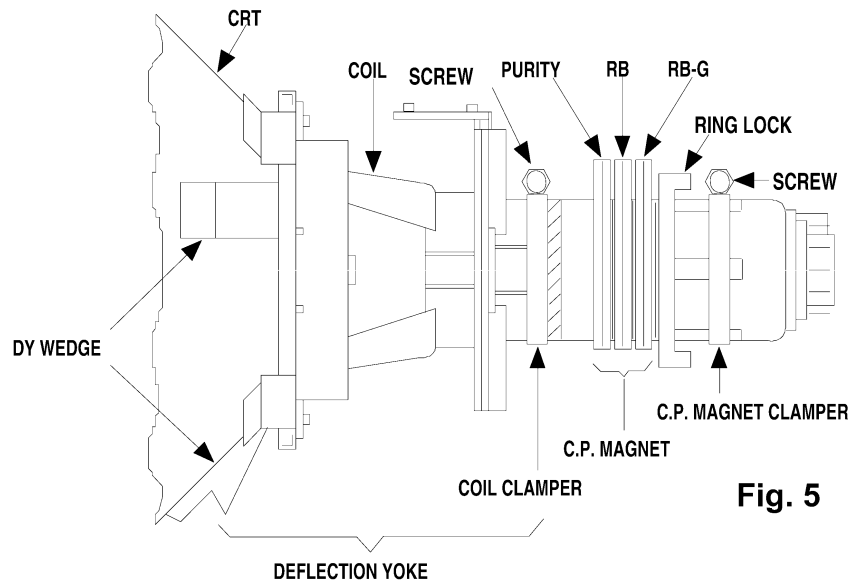

Fig. 5
5. Loosen the Ring Lock and adjust the Purity Magnets so that a red field is obtained at the center of the screen. Tighten Ring Lock. (See Fig. 5, 6)